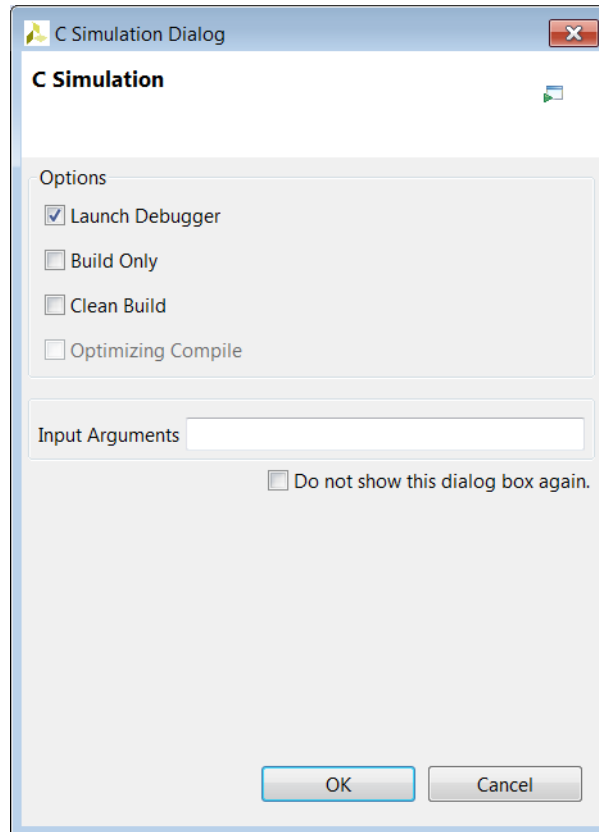

Figure 3-7: C Simulation Dialog Box
2. Select the **Launch Debugger** option as shown in Figure 3-7.